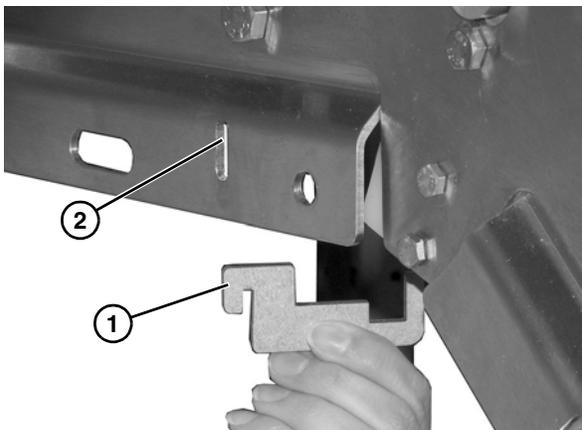

Figure 21
1. Install belt return mounting bracket (**Figure 21, item 1**) into slotted frame hole (**Figure 21, item 2**).